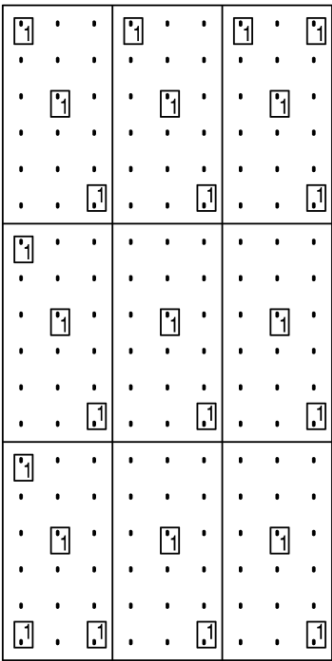

Figure 3 – Example of minimum connector check pattern for a wall panel containing nine sheets of 4ft x 8ft insulation.
6. **CHECK CONNECTOR CONSOLIDATION** Temporarily remove one connector adjacent to each corner of each insulation sheet in the panel (Figure 3), as well as one connector at or near the center of each sheet in the panel and observe the embedded end. Wet concrete slurry should be present on all surfaces of the embedded ends of all observed connectors. If so, replace the observed connectors in the same holes and reapply mechanical vibration. If not, apply more mechanical vibration to the connectors; then recheck the local area by examining all adjacent connectors in an expanding perimeter until concrete slurry is present on all the embedded ends (Figure 4).